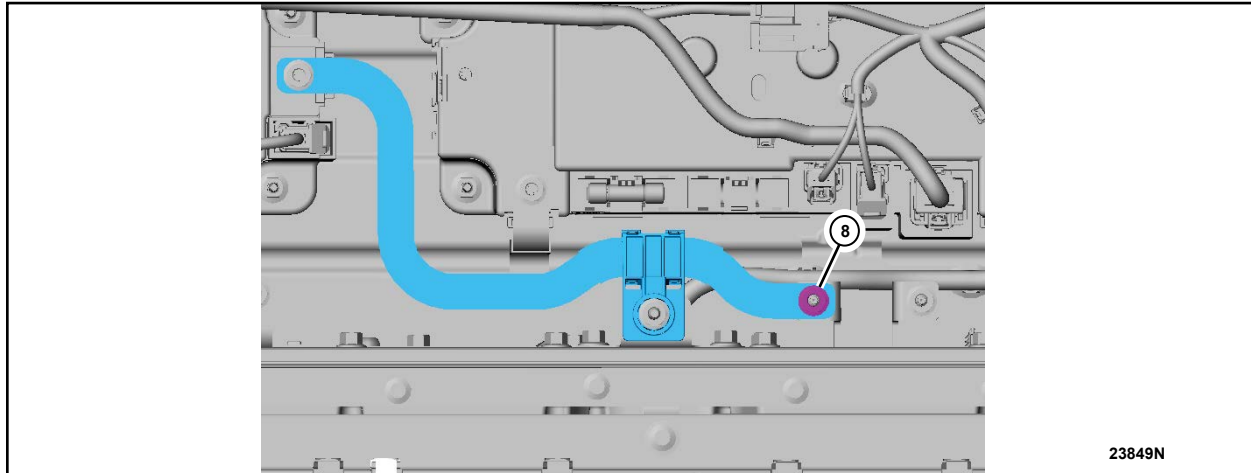

FIGURE 13
27. Check the residual torque-to-tighten on the bolt in Figure 13. Record the data.